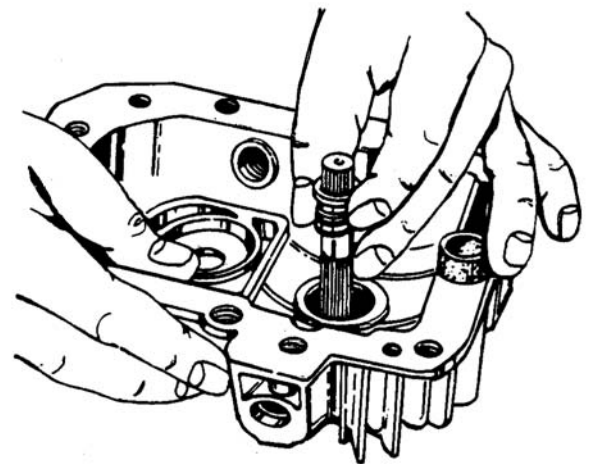

Figure 6-51. Installing Washer and Spring
- b. Place washer and spring on swashplate. See Figure 6-51.